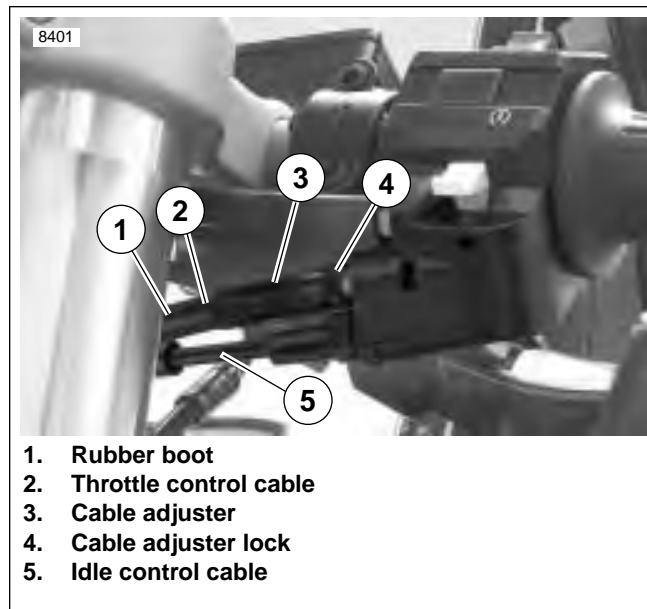

Figure 1-44. Throttle Cable Adjusters
2. See Figure 1-44. Loosen cable adjuster lock (4) (thick disc) on each cable.